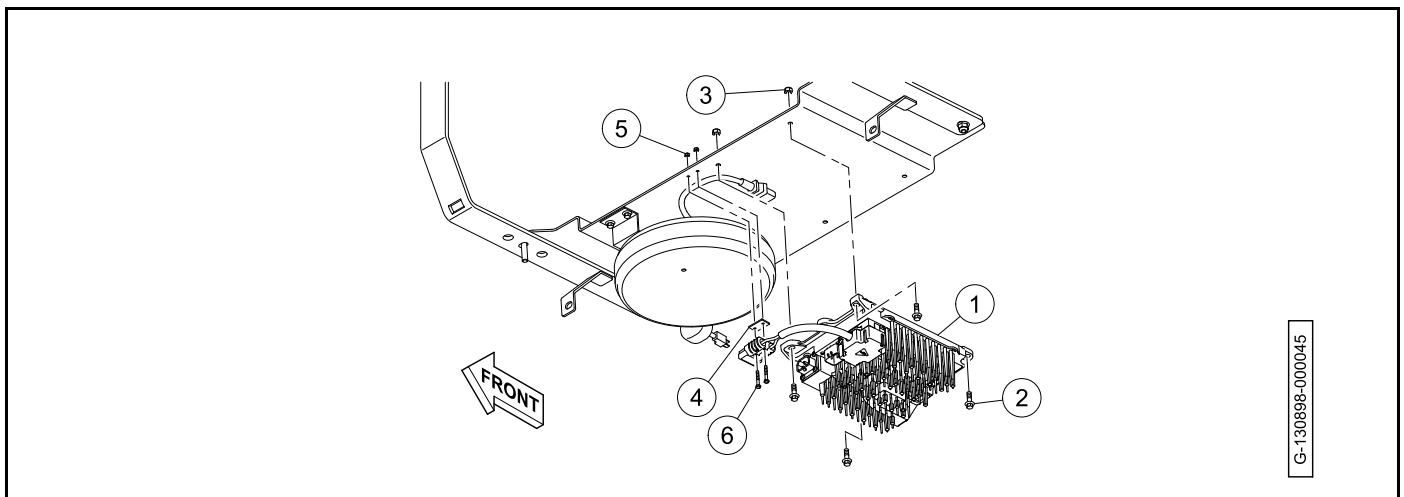

Figure 15-45 Battery Charger Installation
- Install the battery charger (1), bolts (2), and nuts (3) (**Figure 15-45**). Tighten the nuts to 115 in·lb (13 N·m).